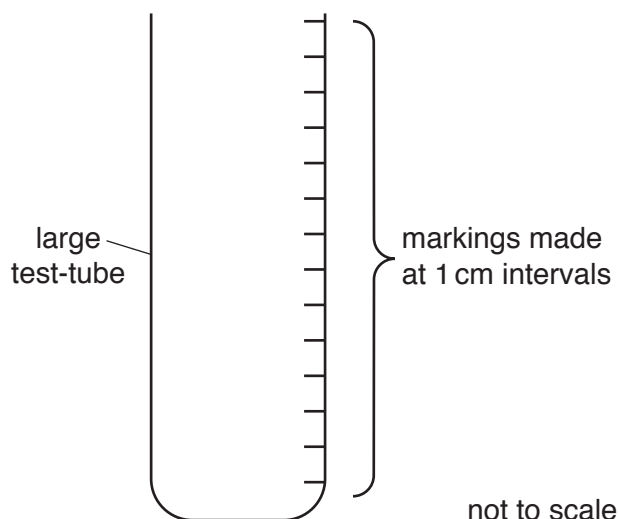

Fig. 1.1
- Step 1 Use a ruler and marker pen to mark the two large test-tubes at 1 cm intervals from the base of the large test-tube to the top of the large test-tube as shown in Fig. 1.1.